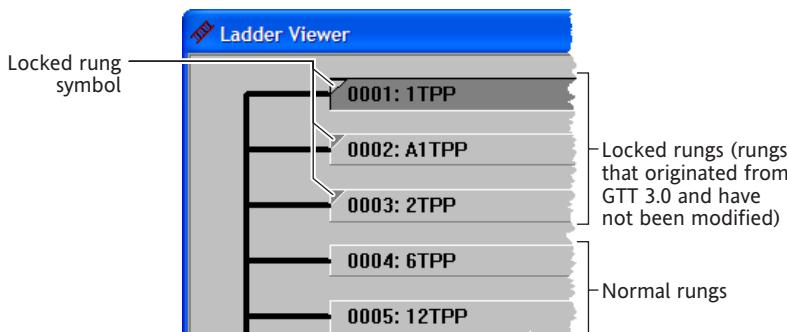

Figure 4.4 Locked and normal rungs in the Ladder Viewer
- in the Ladder Viewer window by the symbol shown in figure 4.4;